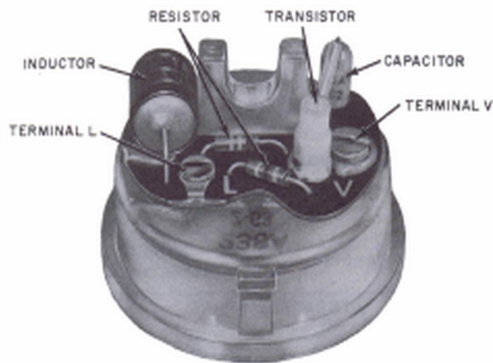

Fig. 1—238A Amplifier, Showing Terminal Locations
1.01 The 238A, 276A, and 277A amplifiers are single stage circuits. Each circuit consists of a transistor, an inductor, a capacitor, resistors (and in the case of the 277A, a polarity guard) all mounted on a printed circuit board and attached to a special transmitter cup (Fig. 1, 2, and 3).
- 3.03** Connect handset cord to amplifier terminals (Fig. 1, 2, or 3) as follows: